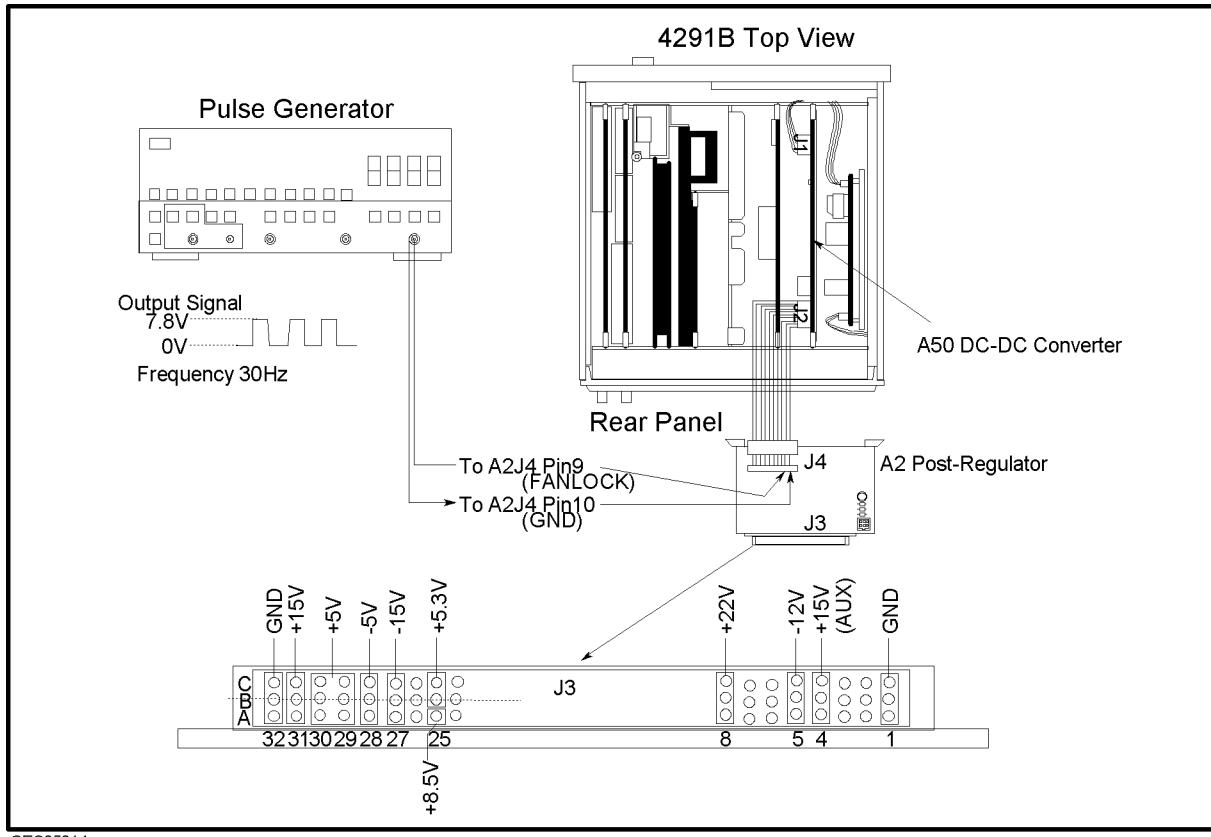

Figure 5-11. A2 Output Voltage Measurement Setup
- d. Reconnect the cable between the A2J4 and the A50J2 as shown in Figure 5-11.
- e. Connect the pulse generator to the A2J4 as shown in Figure 5-11.
- h. Measure the A2 output voltages at the A2J3 pins using a voltmeter with a small probe. See Figure 5-11 and Table 5-2 for the power supplies, A2J3, and the limits.